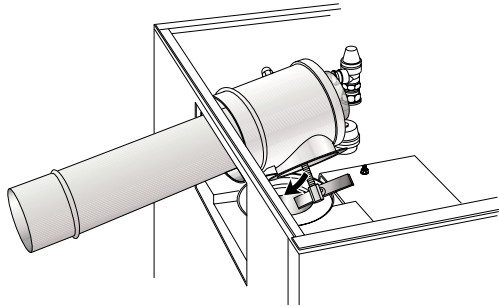

Fig. 3
10. **All models except Vortex** – Pass the boiler connector section through the hole in the casing and locate the T bar through the flue outlet hole (Fig. 3) .